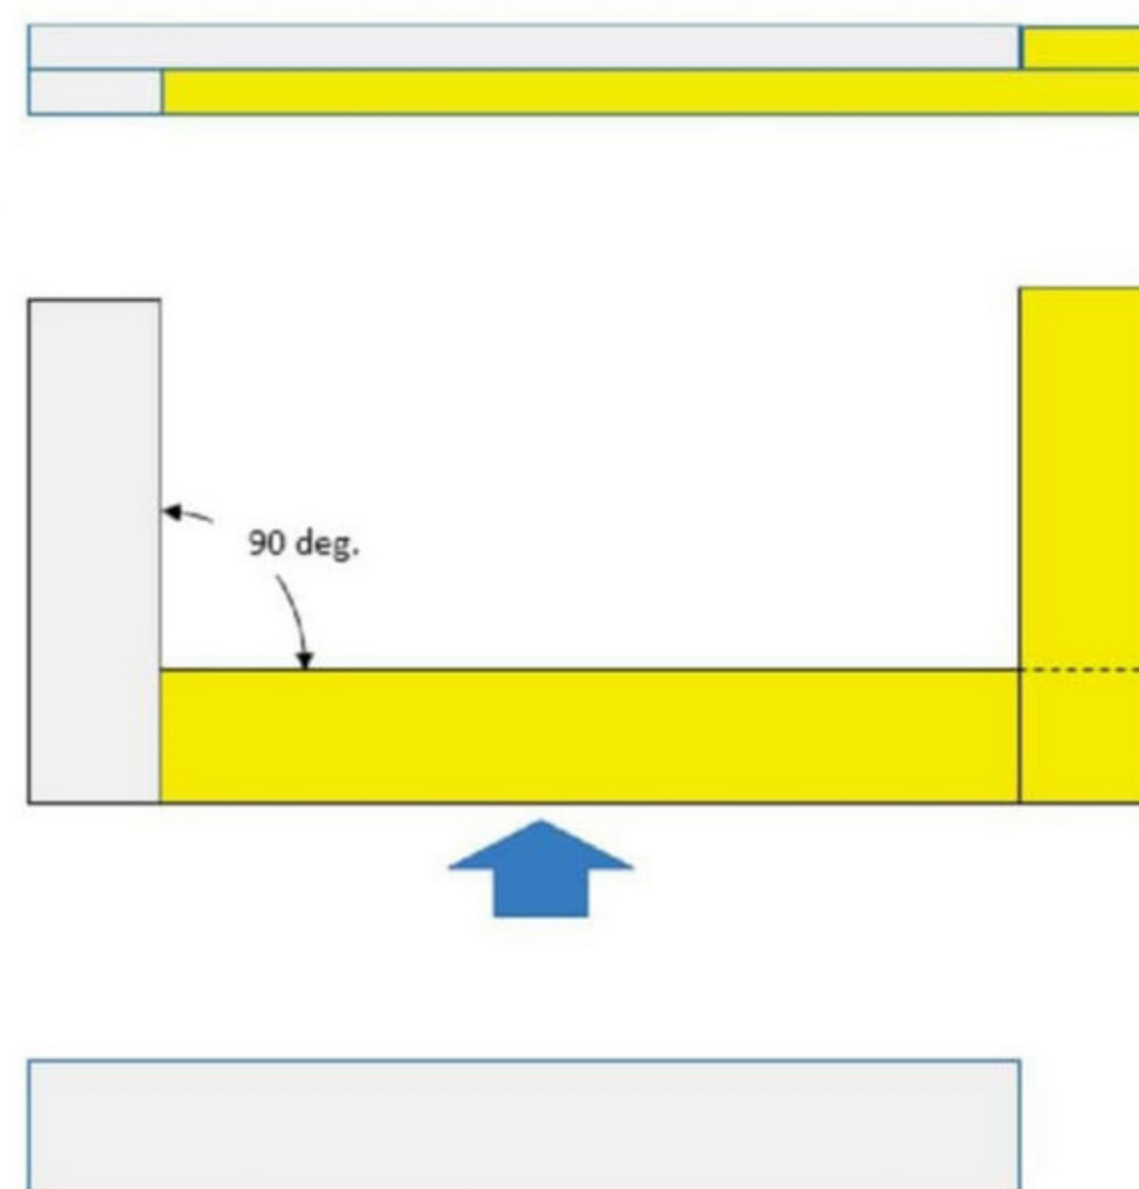

Fig. 2: Butting the pieces together
Step 3: It's glue-up time. Ideally you need about six wood clamps, four at a minimum. Position the pieces so that you can apply an evenly spaced series of glue blobs down one side of each length and on the ends butted together (see Fig. 2). Using a paint brush dipped in water, evenly paste the glue down each length and the ends. Avoid over-gluing as it will 'squish-out' when clamping and you'll have to spend time later cleaning off excess glue. Clamp the pieces together double – checking with a square that the short pieces are at right angles to the long pieces. The way in which each piece is sandwiched together provides a strong assembly which won't need screws or dowels to hold it together. Leave the pieces clamped together for at least four hours.